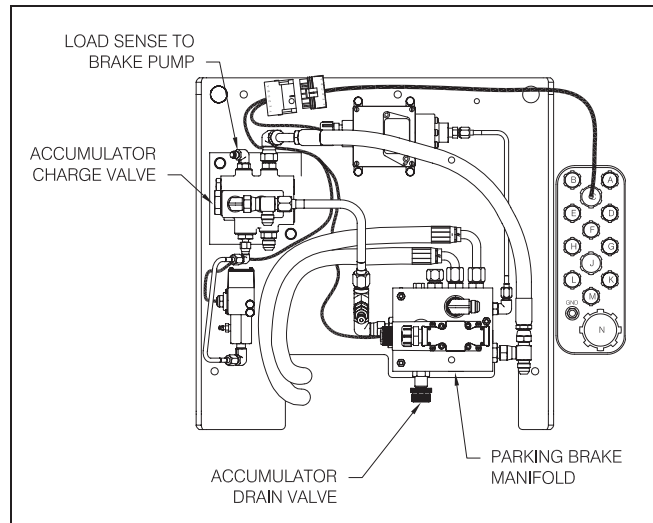
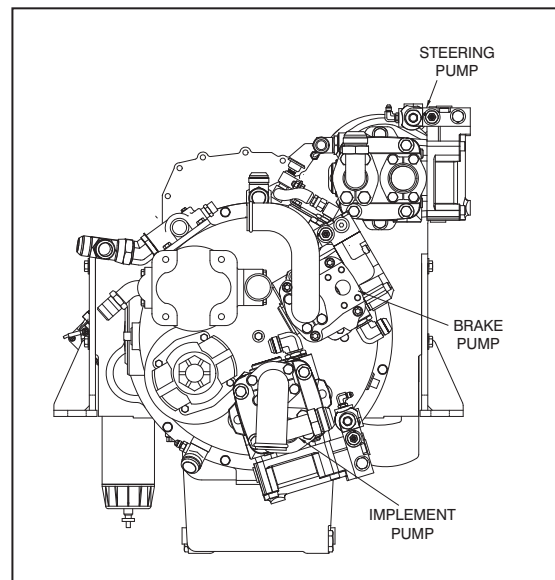
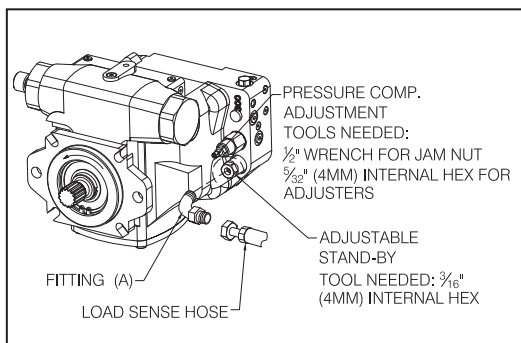

Figure 2: Brake Valve Plate Assembly
Figure 3: Pump Placement
Figure 4: Steering Pump Compensator & Stand-By Adjustments
There are two adjustments on each pump. One is the stand-by pressure and the other is the compensator pressure. **In this step we are only adjusting the system stand-by pressure.** Before working on the system you must first relieve pressure in the brake accumulator, See Figure 2.
Steering Pump Stand-By Pressure Adjustment (See Figures 3 & 4)
3. If pressure adjustment is required, shut down engine, remove the load sense hose at the pump load sense adjustment and install a plug in the hose. See Figures 3 and 4.
4. Remove fitting (A) from the load sense relief and adjust the pressure using a 3/16" or 4mm Allen wrench (see Figure 3). One turn clockwise increases the pressure by 170 psi.
5. The pressure compensator setting must be higher than the pressure at the load sense. If you are unable to achieve 500 psi stand-by pressure, increase the pump compensator pressure (one rotation clockwise = 1,200 psi). Refer to Figure 3.
Install a 5,000 psi. gauge in steering system test port shown in Figure 4. Activate the bucket roll back function. Adjust the steering pump compensator to 2,700 psi., see Figure 2 and Figure 3. Return bucket control to neutral. Remove the relief cap on the amplifier using an 8mm allen wrench. Next using a 10mm allen wrench to insure that the relief cartridge is sealed properly. Turn clockwise to tighten, torque to 20- 22 lbs/ft. With engine running at a low idle, hold steering on the steering stop, and with pressure against the relief cartridge, check or adjust pressure using a 5mm allen wrench. Check the steering pressure in both directions (2,550 psi). Install the relief cap.
See Figure 2 and Figure 3. To set the final pump pressures, set each pump compensator to 2,500 psi by activating the bucket roll-back function. This will bring all three pumps to the compensated pressure setting simultaneously. Adjust each pump (steering, implement and brake) compensator to achieve the desired 2,500 psi. Tighten the compensator jam nut after each pump is set.